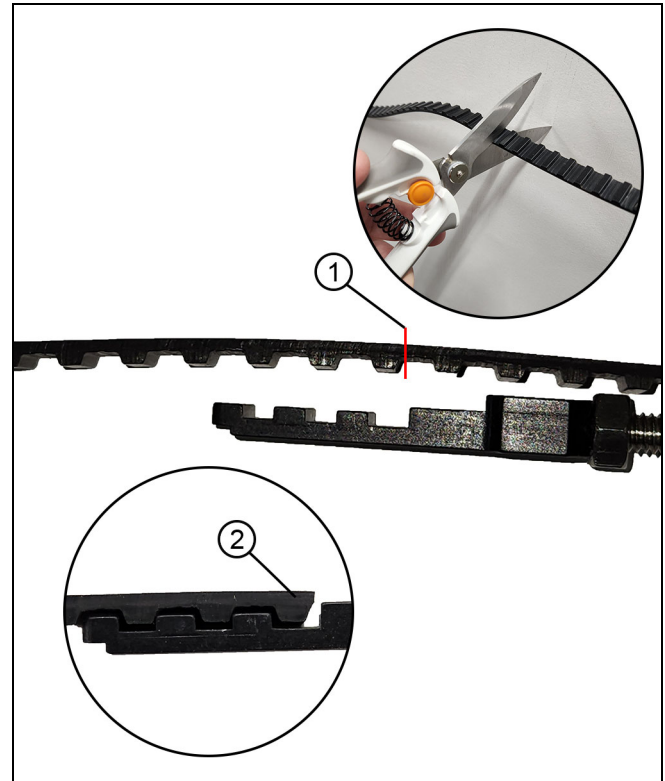

Figure 35
6. Pull the belt tight against the turnbuckle. Mark the belt to ensure there are 3 teeth of engagement on the turnbuckle. Cut the belt with a heavy shear. See Figure 35.